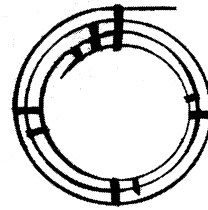
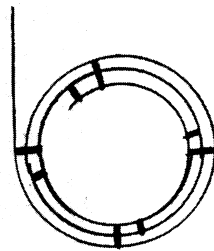

Figure 1
Figure 2
3. Start at the band of tape which is closest to the straight tail of the luff extrusion, as shown in Figure 1. Cutting this band will allow the outermost wrap to uncoil 90 degrees as shown in Figure 2. Carefully cut the first band of tape.